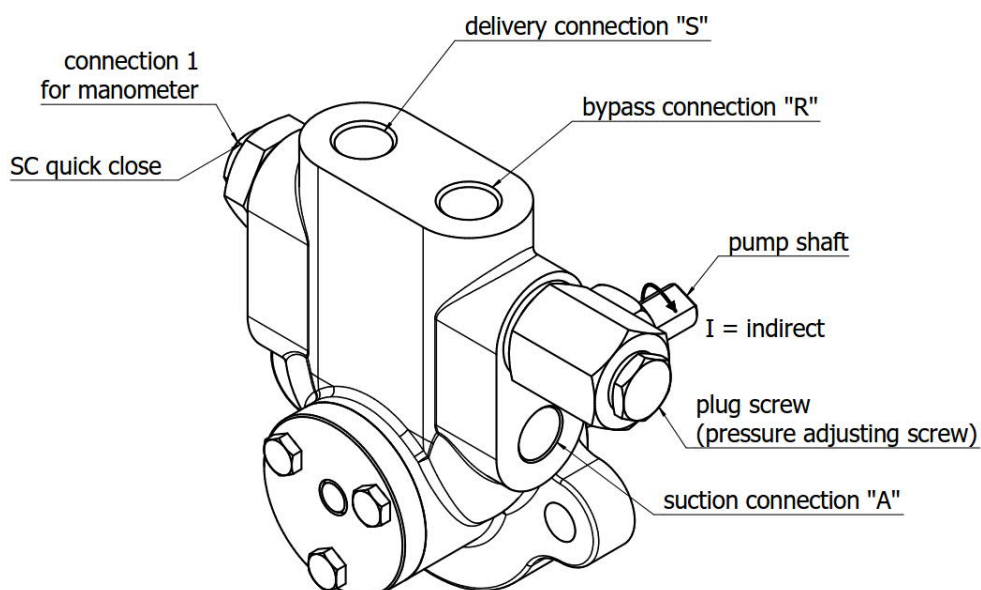

Fig. 1. (Example for direction of rotation „I“)
- The suction connection (see Fig. 1) of the pump is filled with oil. Then the suction line is connected to thread connection „A“.
- The pressure/delivery line connect to thread connection „S“ and the bypass line connect to thread connection „R“. When the pump is realized with SC (quick close) connection, the delivery line connect to SC. (Fig. 1)
- Remove the screw plug for connecting the manometer 1 (Fig. 1). The pressure gauge shows the delivery pressure. Observe using manometers with the right pressure range (according to the pump's pressure range).
- For pressure regulation, the plug screw (see Fig. 1) must be removed.